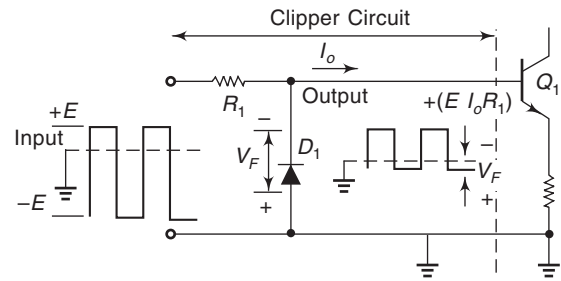

Fig. 8.40 For Problem 15.
15. A negative shunt clipper is to have an output voltage of 9 V and an output current of approximately 1 mA . If the input voltage is $\pm 10 \text{ V}$, calculate the value of R_1 and the diode forward current. (See Fig. 8.40)